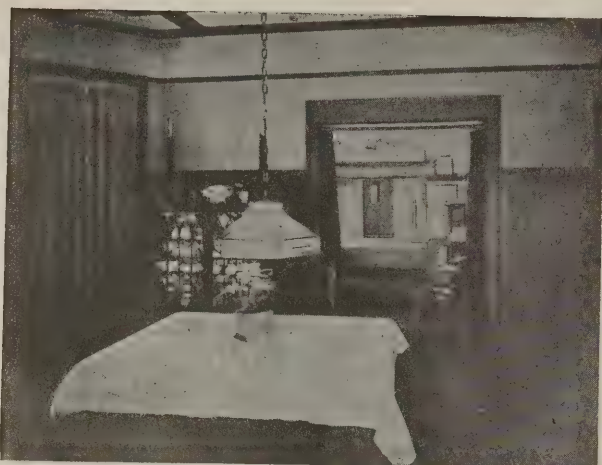

Fig. 3. The "old-fashioned" dome when properly designed and hung produced an ideal lighting effect. Its chief disadvantage is its obtrusiveness
*The Dome.*—The old-fashioned dome when properly designed and hung, lighted the dining-room in an ideal manner. The only objection which can be offered under these circumstances is that it is a rather large object which when hung low is more or less obtrusive as seen in Fig. 3. However, the dome must not be hung high because the eyes will not be shielded from the light-sources within. There are some modern domes now reaching the market which may be hung somewhat higher (see Fig. 4), if a single lamp is mounted high up in the center of these units. There are still further possibilities along this line; that is, the lighting principle of the dome may be incorporated in the more modern and decorative types of fixtures. Several of these are now in use but inasmuch as they have not reached the market they will not be discussed in detail. One of these1 is illustrated in Fig. 5 as it hangs above a table in a demonstration room employed by the writer. The aim was to make it appear like a simple bowl; however, within this bowl and directly over a hole in the bottom is an opal glass shade. The hole and the shade are each about three inches in diameter. This small shade contains a lamp and a cone of light escapes from the aperture to the table. Dimensions and height are such that the cone of light is barely greater in area than the table at that plane. The faces of the diners are in the subdued warm light emanating from the bowl after passing through the inner shade of a warm tint. Another circuit controls small lamps in the bowl giving an effect similar to that of the regular semi-indirect unit. This is described in detail in the reference given, but has been mentioned here to illustrate the possibilities in fixture design.